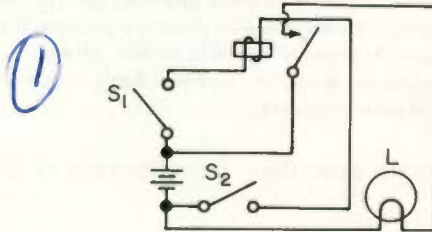

Fig. 37
4. Which of the selections for Question 1 describes operation of the circuit of Fig. 37?